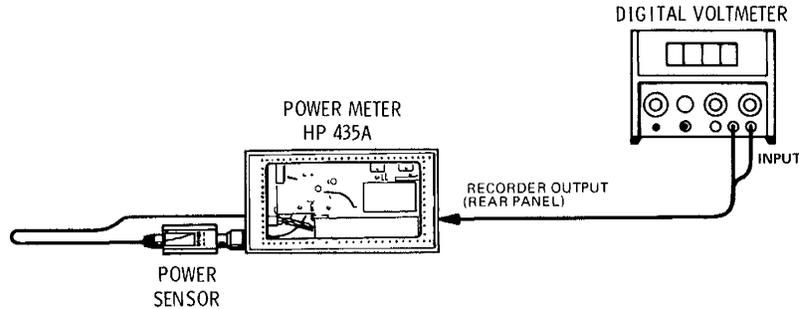

Figure 5-1. Power Meter Adjustment Setup without Calibrator
4. Remove the right side cover of the 435A and connect the equipment as shown in Figure 5-1.
5. Set the LINE switch to (ON).
8. Set the RANGE switch to the 1 mW position and the rear panel POWER REF switch to (ON).
13. Set the RANGE switch to the 1 mW position; set the rear panel POWER REF switch to (ON).